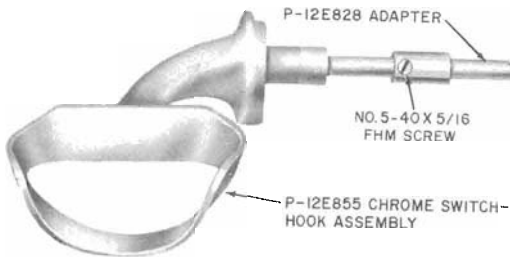

Fig. 11—Two-Piece Switchhook Assembly
- 2.32 Later models of coin collectors have 2-piece, chrome-plated P-12E855 switchhook assemblies (Fig. 11).